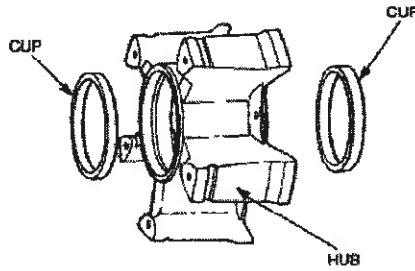

Figure 18 Bearing Cup - Removal
- p. Using a drift, remove the inner and outer wheel bearing cups (Figure 18).